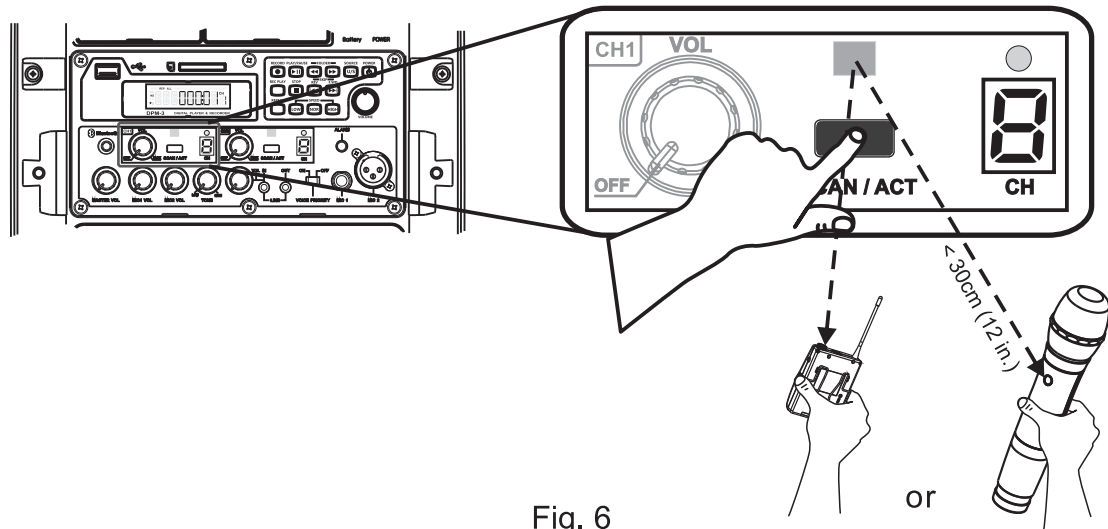

Fig. 6
- (1) Ascertain both the receiver and the transmitter are powered on. Press ACT Button 35 or 40 on the receiver to activate IR (infrared) channel synchronization. Existing channel blinks 38 or 43.
- (2) Align the ACT sync windows of both transmitter and receiver within 30 cm of each other for automatic channel synchronization, Fig. 6.
- (3) If ACT channel synchronization is performed successfully, the new channel stops blinking, RF indicators are lit.